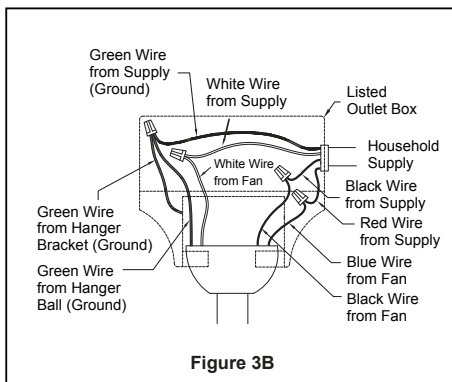

Figure 3B
2. After connections have been made, taking care not to pinch the wires and put the white and green leads to one side and the black leads towards the other side, the connection should be turned upward and carefully push leads into the outlet box. The wires should be spread apart with the grounded conductor and the equipment-grounding conductor on one side of the outlet box and the ungrounded conductor on the other side. (Figure 3B)